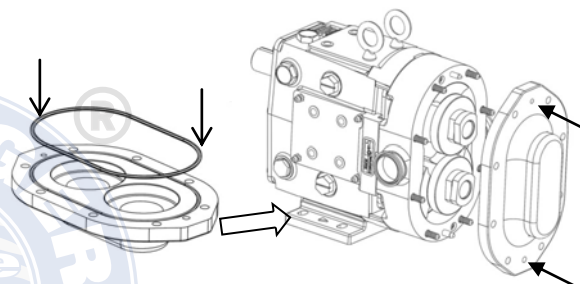

**Figure 56: Installing Rotors and Tightening Jam Nuts**
2) Install a rotor onto either shaft by aligning the large spline tooth on the shaft with the large spline groove on the rotor. Secure the rotor in the body with the jam nuts. Place one nut on at a time, tightening them down using the supplied wrench and a non-metallic wedge to hold the rotor in place (Figure 56). See Table 7 for required torque values. Repeat with the second rotor.